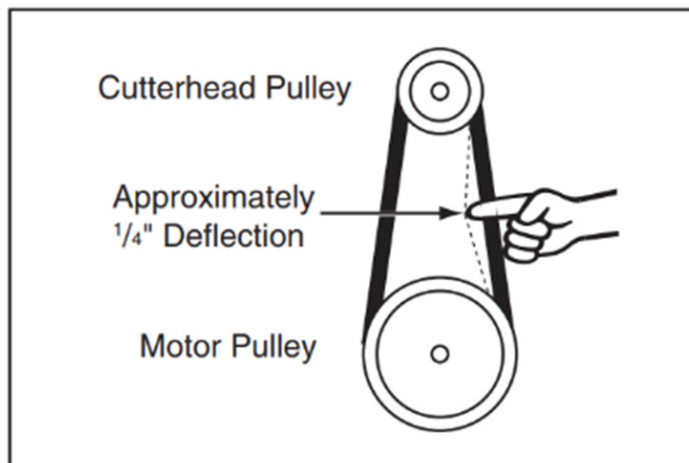

Figure 38: Proper amount of deflection on belts.
- 3- Roll the old belt off the pulleys and install the new belt (refer to Figure 38).